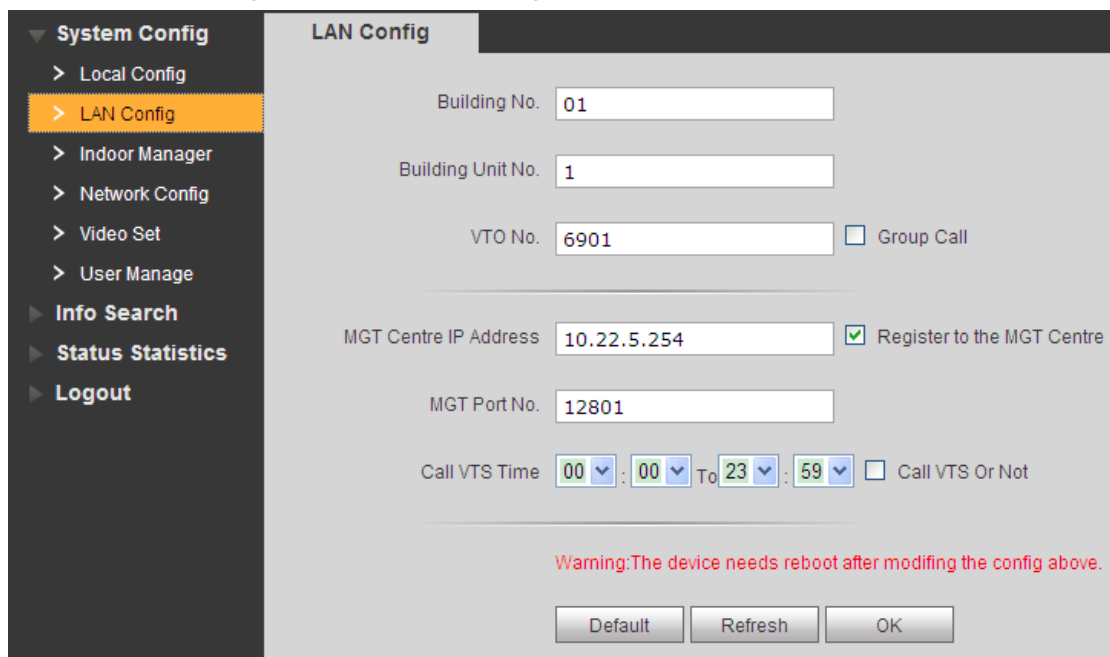

Figure 5- 3
Step 2. Press Product Info, input Room No., Local IP and etc as in Figure 5- 4.